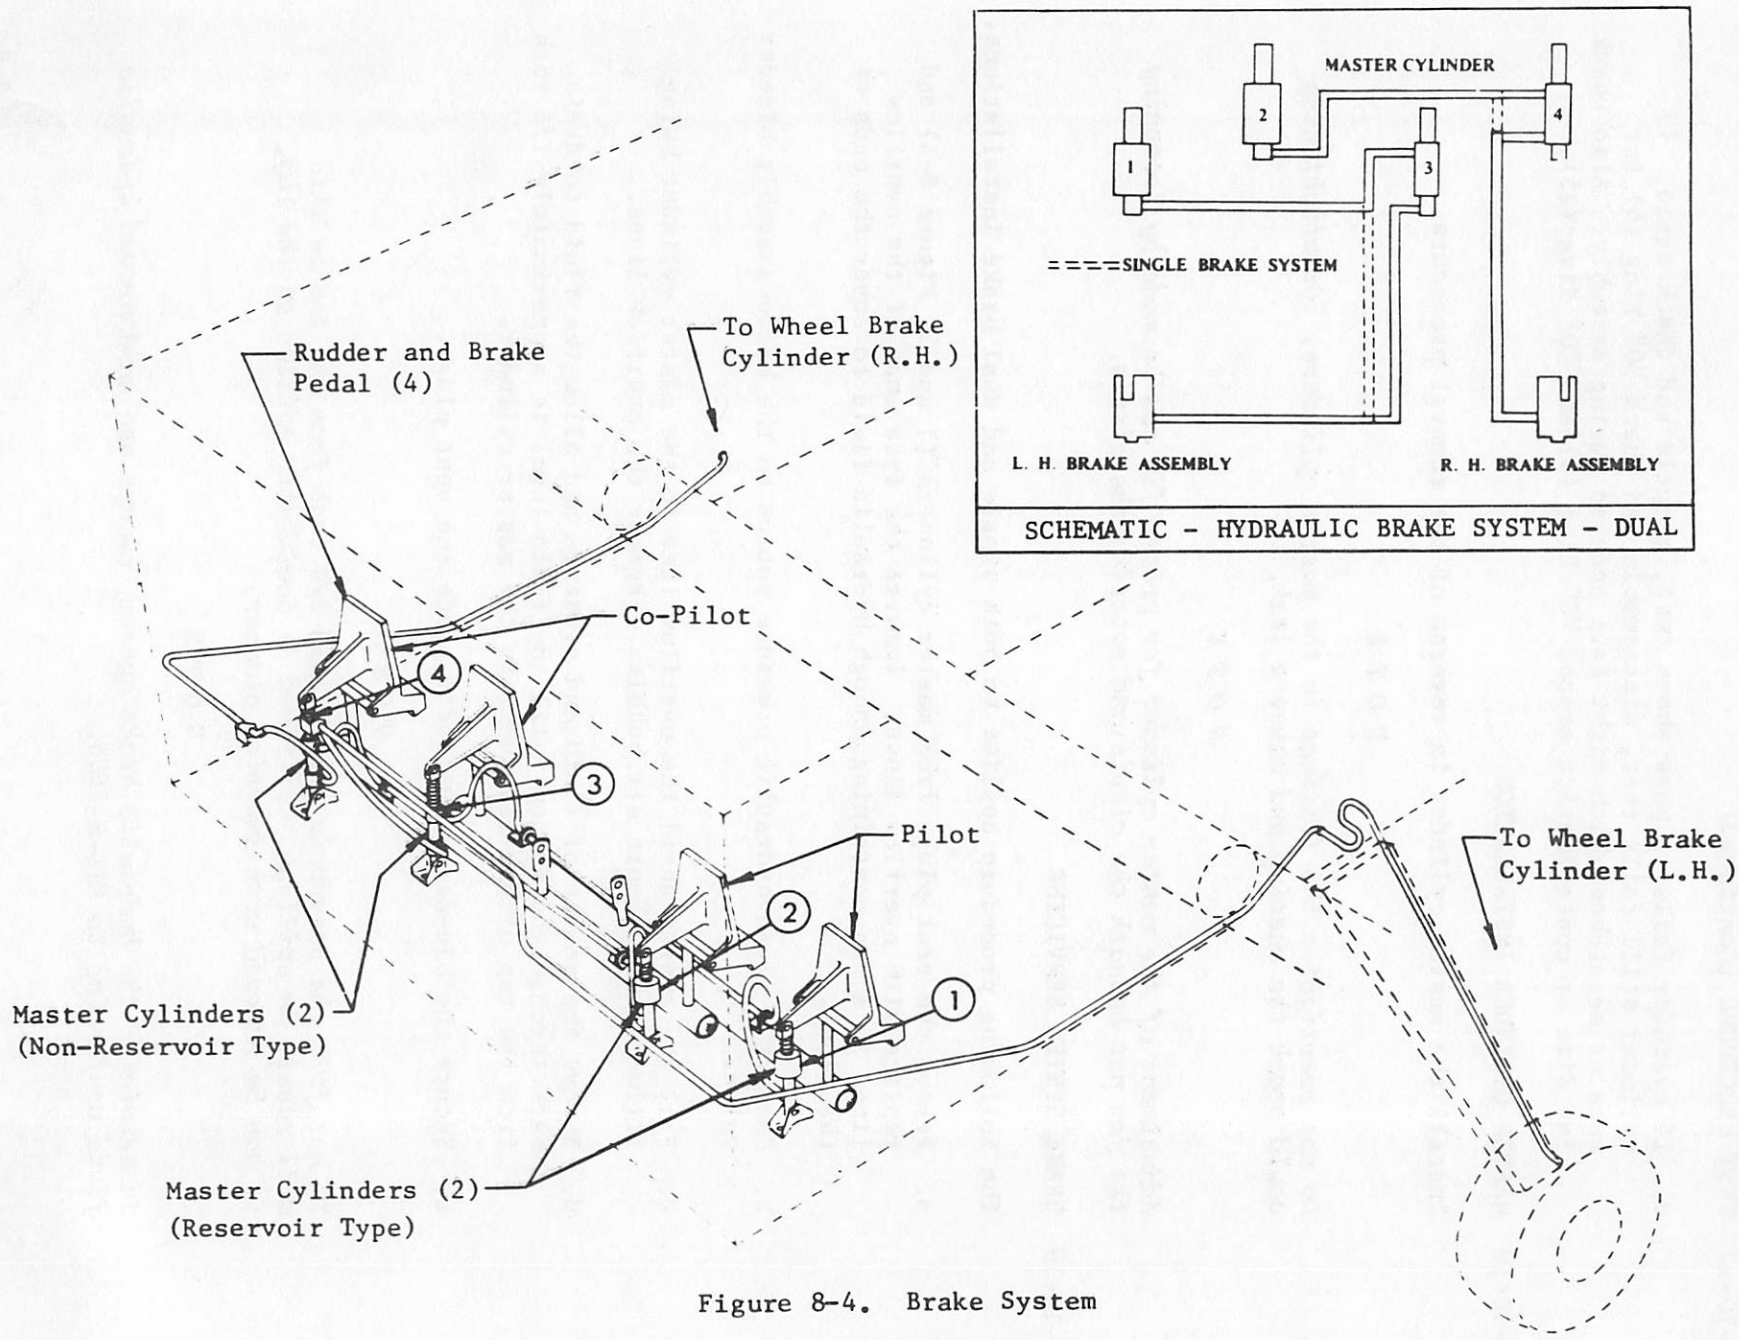

Figure 8-4. Brake System
- a. Remove the vent plugs from master cylinders (1 and 2, Figure 8-4) and replace with overflow lines. Immerse the free ends of the overflow lines in a can containing enough hydraulic fluid to cover the ends of the lines.